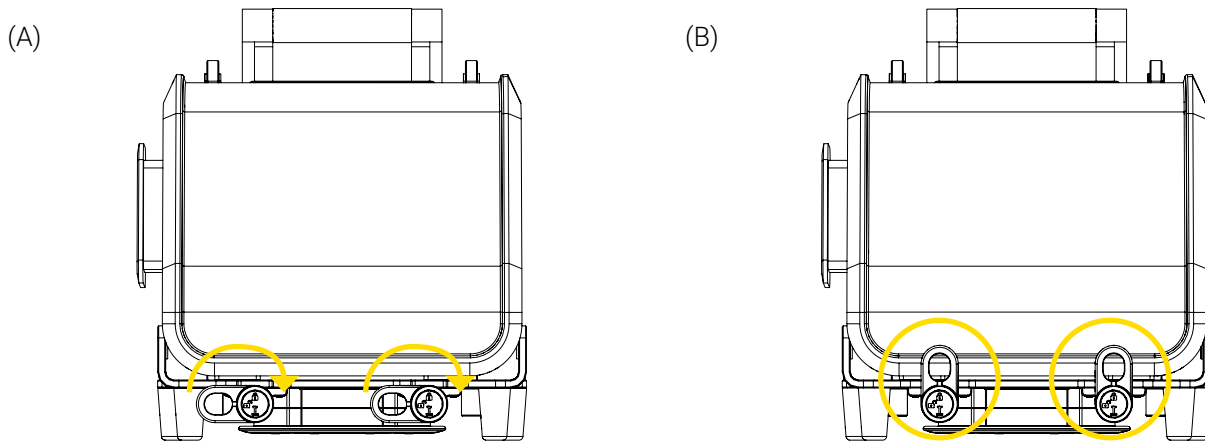

Figure 4: Locking the Bracket Pro Serie 60 - GR
3. Turn the two (2) rotary locks a quarter of a turn clockwise to the locked position  to secure the medical device in the bracket (Figure 4).